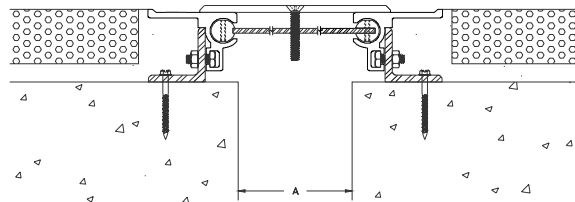

Figure 9
**STEP 13.** Grout continuously between the base member assemblies and the pavers (see Figure 9).